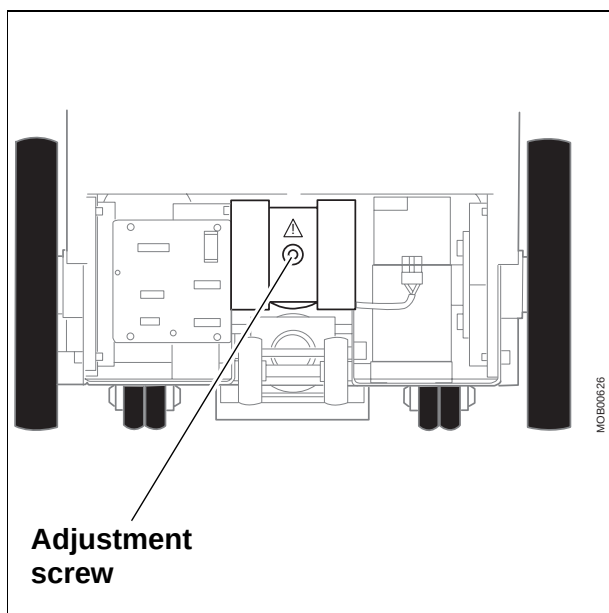

Fig. 29
- Loosen the adjustment screw so that the arm is no longer balanced. However, the spring mechanism remains in position (Fig. 29). Do not allow the spring mechanism to fall out.